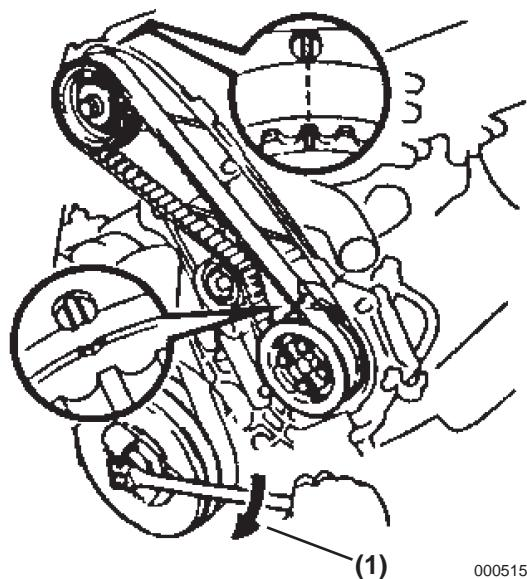

Figure 5-158
3. Turn the crankshaft pulley clockwise (Figure 5-158, (1)) to align the timing marks of camshaft timing pulleys No. 1 and No. 2 with the BDC mark. **NOTICE:** If the timing belt is disconnected and the crankshaft pulley is rotated, engine damage will result from the piston head and intake/exhaust valve heads contacting. NEVER turn the crankshaft with the timing belt disconnected and always make sure to set the crankshaft pulley at the correct angle when installing the belt.